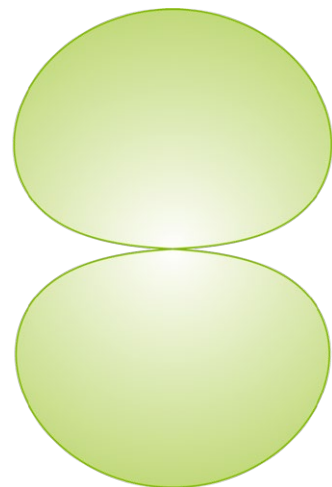

Figure-8
Using both outputs of the LCT 640 TS while recording is more like capturing the whole session instead of just recording a source. It adds the freedom of changing the polar pattern dynamically from cardioid all the way to Figure-8 during post-production. In fact while mixing your track, you could still turn your microphone by 180° although you've finished your recording days ago. And we haven't even touched all the possibilities of two LCT 640 TS in a stereo-stereo setup ...
Dual-output mode // The LCT 640 TS provides the signal of the front and the back capsule separately. That way any kind of polar pattern from Omnidirectional to Cardioid, to Figure-8 can be realized dynamically. And the most fascinating fact; you can **change the polar pattern after the recording** during post-production.
1 Polar pattern indicator // Use center pushbutton to select polar pattern; omni // broad // cardioid // super cardioid // figure-8. Only available in Multi-pattern Mode! Not illuminated in Dual Output Mode!
The LCT 640 TS makes it possible to change and fine-tune the polar pattern seamlessly all the way from omnidirectional to figure-8 as well as to turn the recording direction of the microphone by 180° - **even after the recording session**.
Figure-8 // The Figure-8 pattern has the same sensitivity at 0° and 180°, it is the least sensitive at 90° and 270°. This makes it very interesting for various stereo recording techniques (Mid Side, Blumlein). It can also be very helpful in situations where you do not want a signal coming from a 90° angle to bleed into the microphone.
Mid side stereophony is usually only possible with two microphones. The side microphone is a figure-8, where the side points to the source, the mid microphone is any other polar pattern like cardioid, omni, ..., where the front is pointed to the source. You need to decode the signals to get the stereo signal. It goes like this:
- // Create the side signal by subtracting the back signal from the front signal or use the Polarizer plugin to create the figure-8 pattern.
Side left = figure-8 (front membrane - back membrane)
Side right = figure-8 (front membrane - back membrane)
The XY stereo technique is based on level differences between 2 directional microphones. Their capsules are placed together as close as possible and one microphone points right the other one left. The opening angle is variable but usually at least 90°. XY stereo recording techniques are excellent for locating individual sources in a recording and are mono compatible. A special XY recording technique is "Blumlein", named after Alan Blumlein, a pioneer in stereo recording. It consists of 2 figure-8 microphones with an opening angle of 90°. It is known for its very balanced and natural sound.